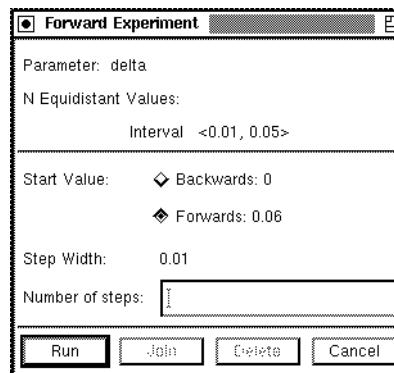

Figure 22: Forward Experiment dialog for equidistant mode.
**Equidistant Mode** The “Forward Experiment” dialog appears (see Fig. 22). The first three lines give an information about the selected parameter (name, mode, and interval of values) where the experiment had already run. Active one of the following radio buttons: